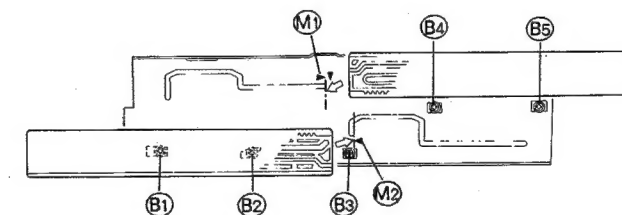
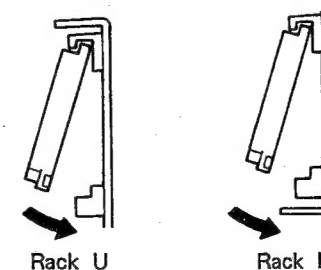

Fig. 3-2
Fig. 3-3
2. As shown in Fig. 3-2, attach the racks U · L so that the tips are at the tip positions (M1) and (M2) of each ▶ mark stuck on the chassis. Insert the upper portion of the rack first and attach it as arrow shown in Fig. 3-3.